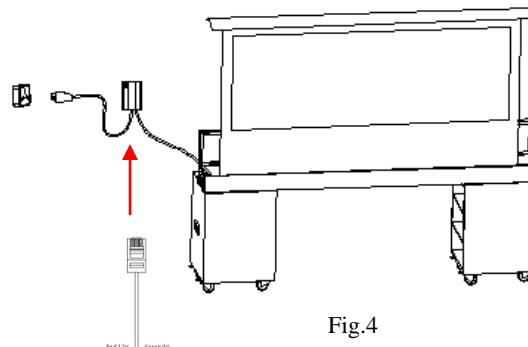

Fig.4
4. **5-12 volt trigger (Item D, Fig 4):** The built-in 5-12V trigger input allows your screen to synchronize its drop & rise with the projector’s power cycle. The screen deploys when the projector powers up and will retract when the projector powers down. The 5-12 volt RJ45 cable connects to your projector’s trigger output via a separate cable that may or may not be provided by the manufacturer of the projector. The trigger feature will not work without an output cable from the projector, but it can be tested by connecting the Red (+) and Green (-) cable to a 9-volt battery.